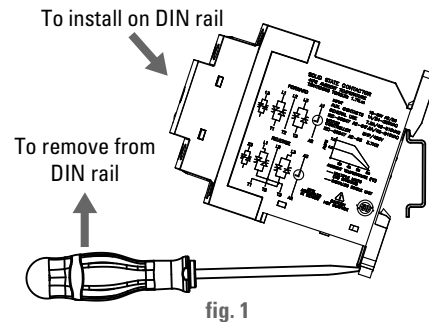

fig. 1
- Install the contactor on the DIN rail (as shown in **fig.1**).